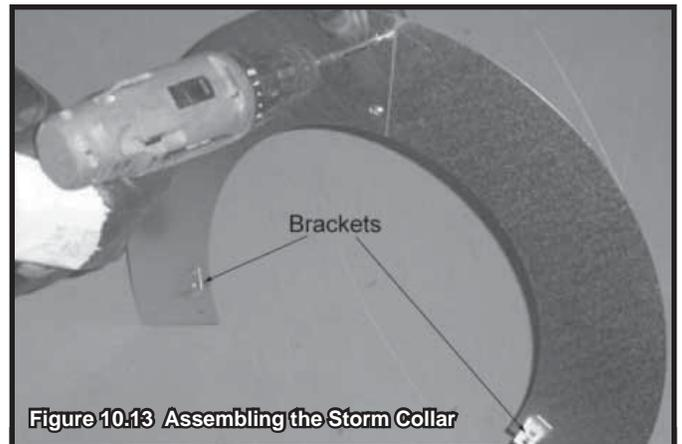

**Figure 10.12**
- Slide the roof flashing over the pipe sections extending through the roof as shown in Figure 10.12.
- Caulk the perimeter of the flashing where it contacts the roof surface. See Figure 10.12.